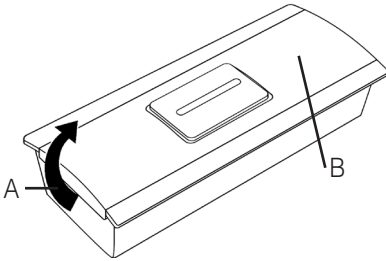

Figure 3: Call-pushbutton
- a) Remove the transparent front by lifting it off its clip on one side of the housing (fig. 3 A). If necessary, use a small flat-sided screwdriver to assist.
- c) You can now open the small screw (fig. 3 B) using a small Phillips screwdriver and remove the front of the doorbell pushbutton behind which there is the PCB with the battery.